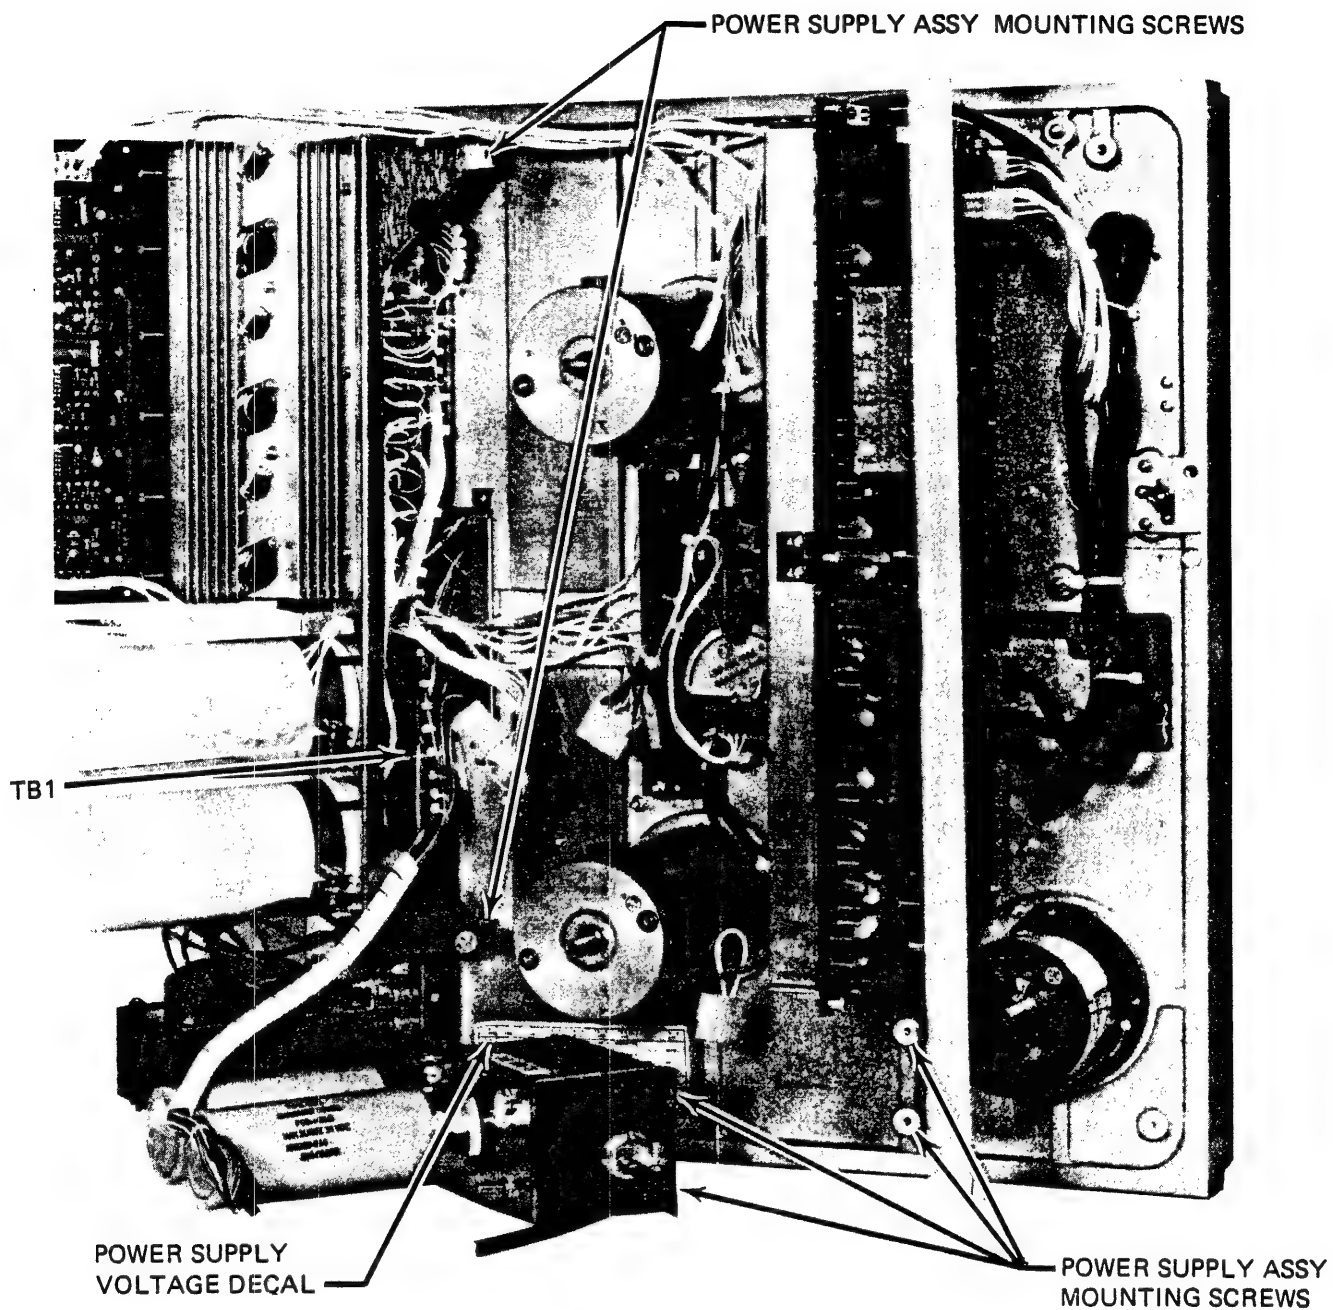

Figure 4-3. How to Open Power Supply
- c. Remove four Phillips screws that fasten power supply assembly to transport deck. These screws are shown flagged in Figure 4-3.